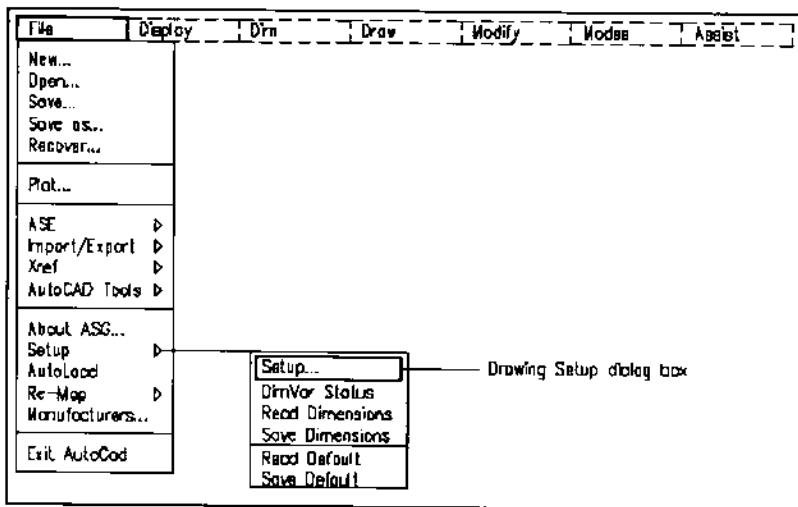

Figure 3.
5. Select Setup... as shown in Figure 3 to open the Drawing Setup dialog box displaying drawing setup parameters in section and pick boxes.
1. You can save the current setup values by selecting the Save Default option on the Setup cascading pull-down submenu as shown previously in Figure 3.